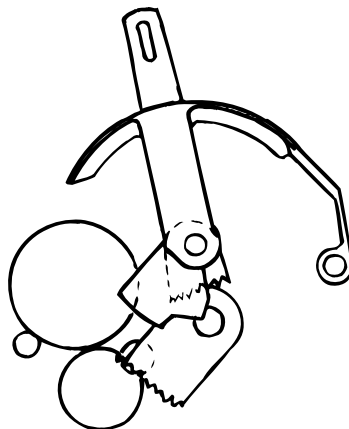

Figure 2-14
## (7) Paper clamp mechanism (See Figure 2-14.)